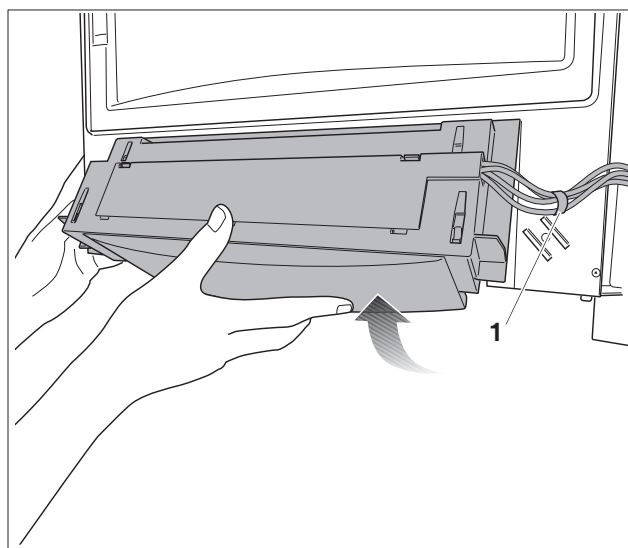

fig. 137 Removing the control panel
- Undo the cable tie (fig. 137, **item 1**).
- Remove the control panel (fig. 137).